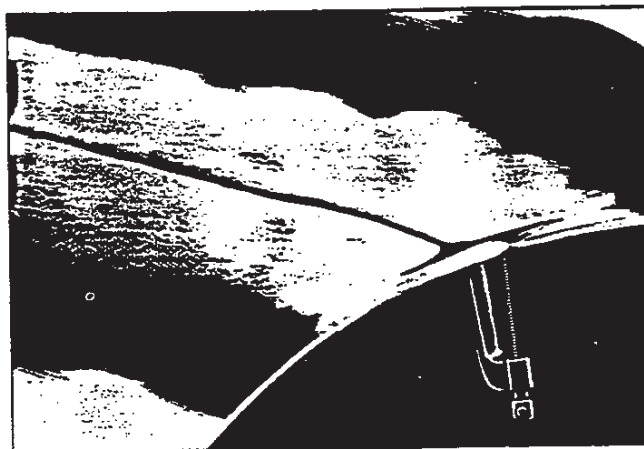

Fig. 64—Cracked Panel Preparation
5. Use "C" clamps to align panel portions allowing approximately 1/8" between the panels or as necessary to provide proper alignment of panels, Figure 64.